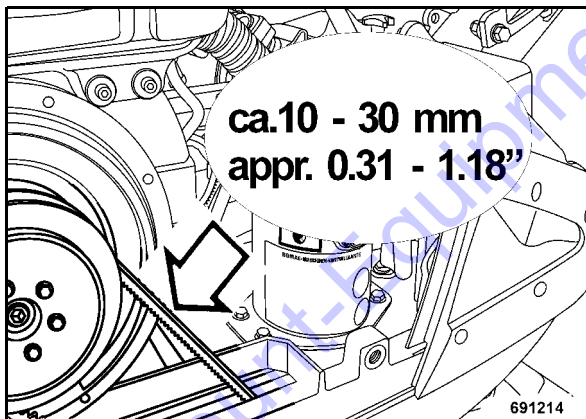

Fig. 71
- Check condition and tightness of V-belt (Fig. 71).